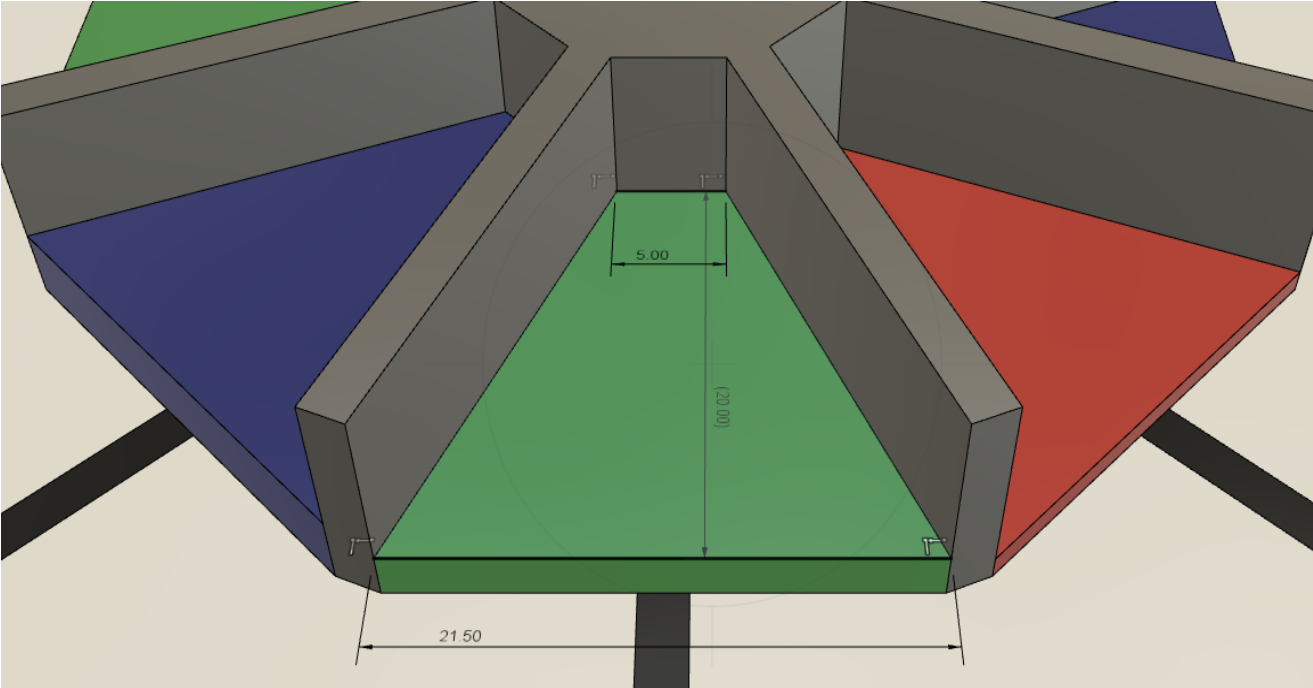
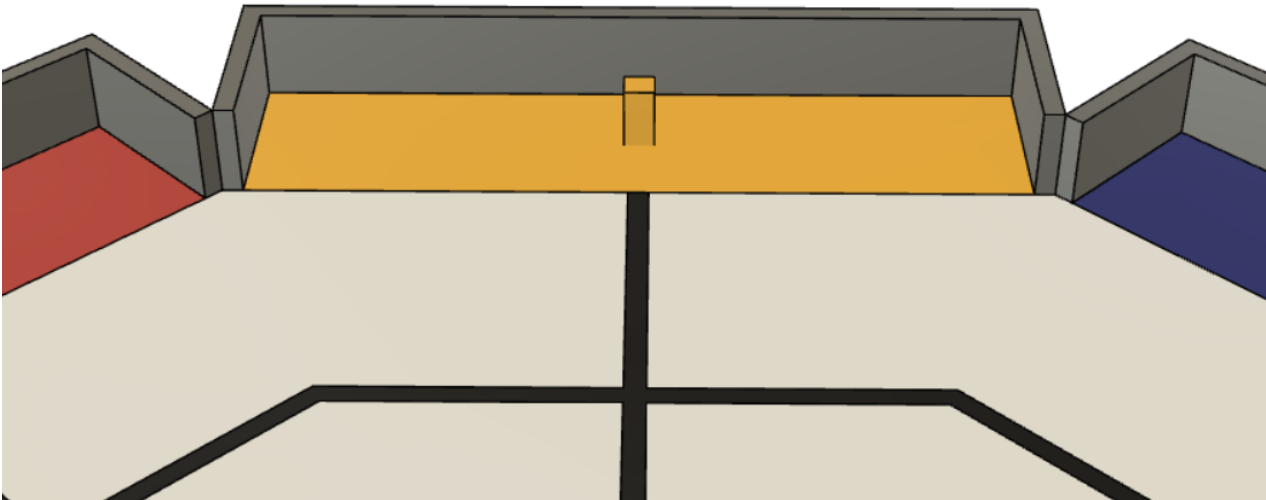

Figure 1A - Release Areas (Scale 1: 1 cm)
Figure 2A - Receiving Zones
- 19) The criteria for the release zones are shown in Figure 1A. The dimensions of the receiving zones are 80cm x 20cm and are shown in figure 2A.